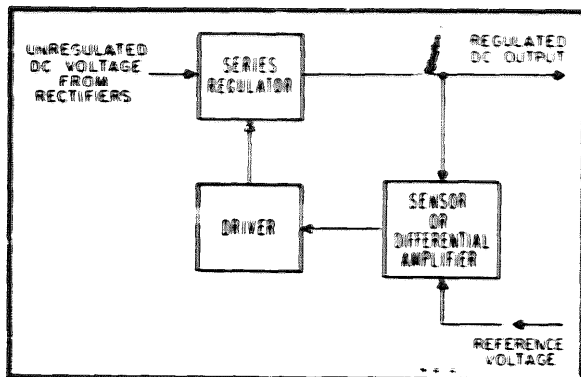

Figure 1-15. Regulated Power Supply Block Diagram
(1) The low-voltage supply consists of: -100 volt supply, +100 volt supply, +250 volt supply and -12.6 volt supply. The +100 volt supply is independent, and provides a reference voltage for the -100 volt supply. The -250 volt and -12.6 volt supplies are dependent on the -100 volt supply for reference voltages.
(2) Fig. 1-15 is a simplified block diagram of regulator used in the low-voltage supply. The series regulator acts as a variable resistance in the regulated output. A sensor (or differential amplifier) compares the output voltage with a reference voltage (dc return